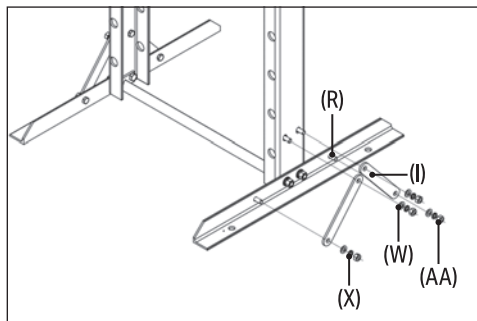

Fig. 3
- c. Position two stilt support brackets (I) from the frame foot to the vertical stilt and secure them in place using four M10 x 25mm hex bolts (R), M10 washers (W), M10 spring washers (X) and M10 nuts (AA) (Fig. 3).